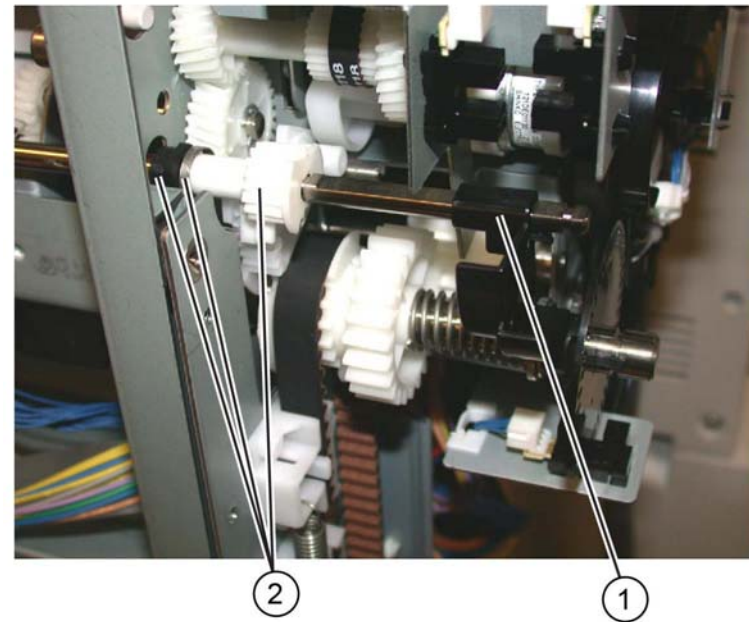

Figure 8 Flag removal
15. Slide the gear, spring and the bushing away from the frame, **Figure 8**:
- Unlock, then remove the flag (1).
- Slide the gear, spring and the bushing (2) away from the frame.